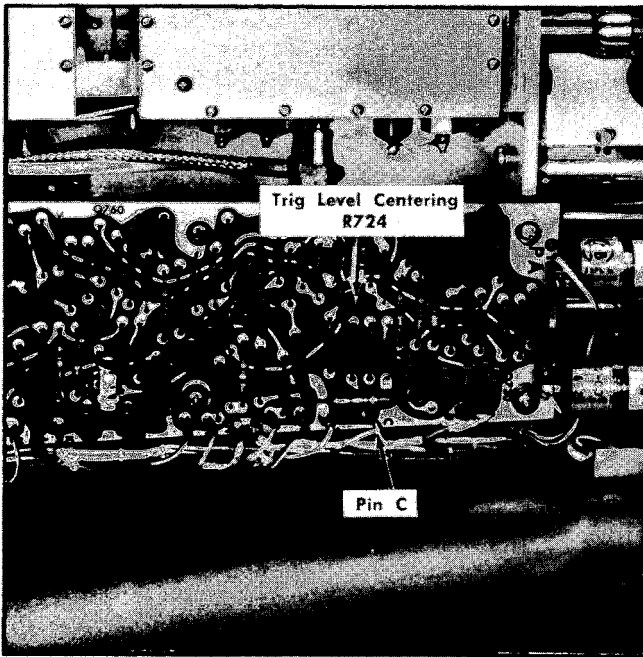

Fig. 6-12. Adjustments for trigger circuit on the horizontal display circuit board assembly.
- c. Adjust the Trigger LEVEL control for a voltmeter reading of 0 volts between pin C (see Fig. 6-12) of the Horizontal Display board and chassis ground.